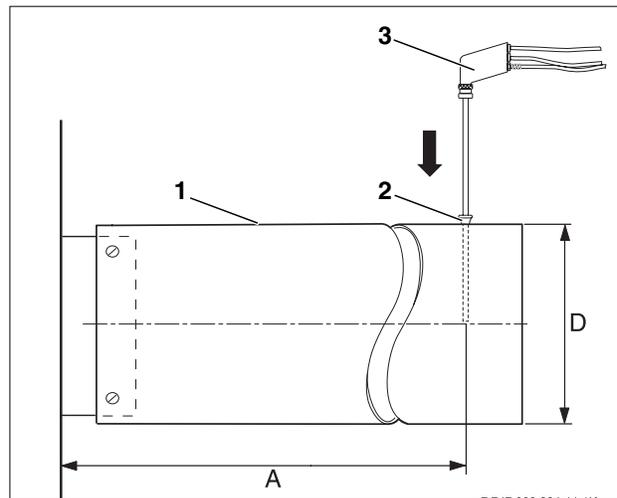

Fig. 13 Recording measured values
The measurements are taken in the exhaust pipe (Fig. 13).
The measurement port (coupling; Fig. 13, **Item 2**) should be located distance A (approx. $2 \times$ the diameter of exhaust pipe D) from the boiler rear section (Fig. 13). If the exhaust system is connected to an elbow immediately after the boiler, the measurement must be made before the elbow.
- Insert combustion analyzer probe (Fig. 13, **Item 4**) in flue gas pipe and position near center (highest temperature).